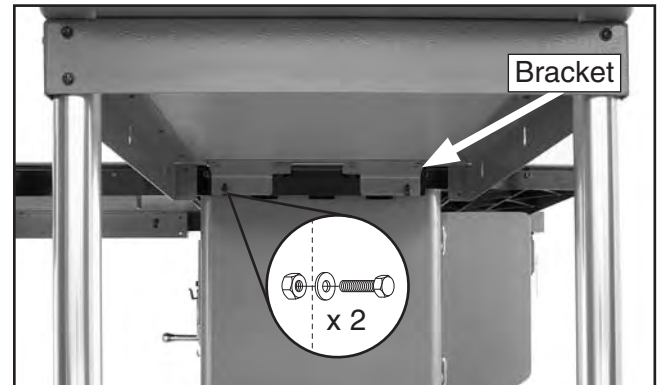

Figure 23. Outfeed table fastened to rear rail.
- Place the outfeed extension table assembly upright with the feet on the ground, align the slots in the extension table bracket with the rear rail mounting holes, then fasten the table to the rail with two M8-1.25 x 20 hex bolts, 8mm flat washers, and M8-1.25 hex nuts, as shown in **Figure 23**.